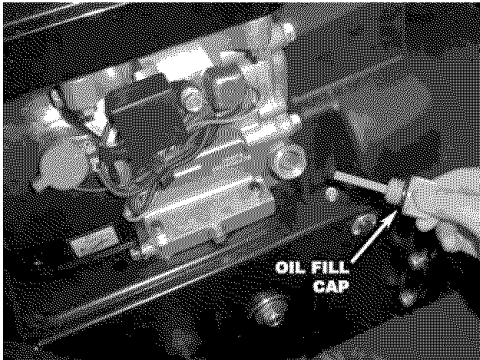

Figure 16- Removing oil filler cap
1. Unscrew the oil filler cap and wipe the dipstick with a clean dry cloth (figure 16). Now replace the cap.